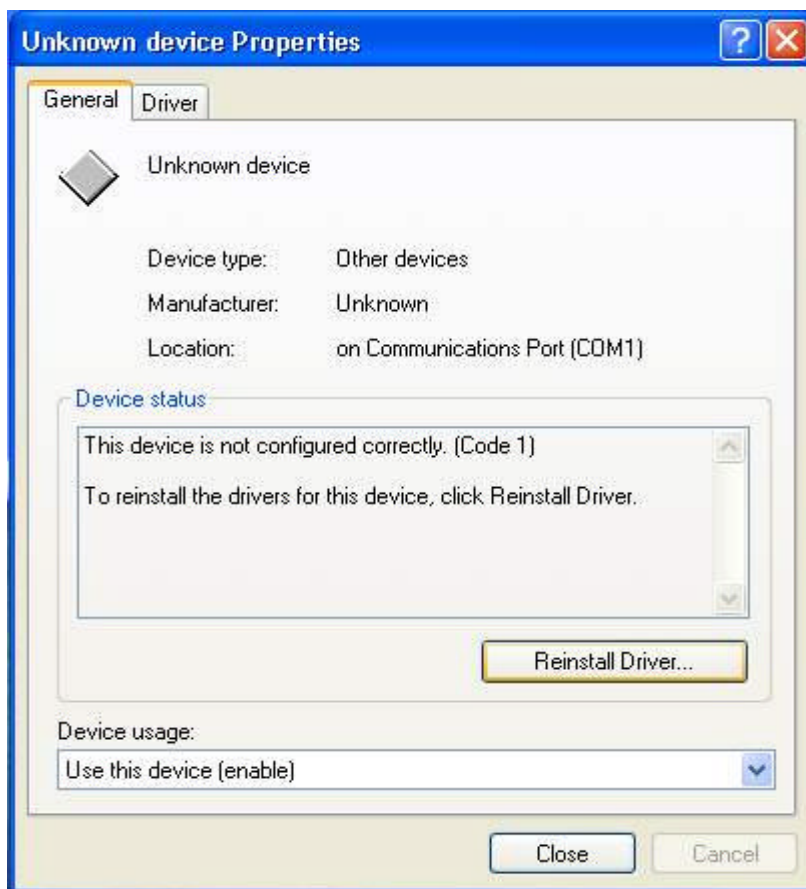

Fig 1
Step 1. Please note that the installation procedures will be different. It depends on different computer systems. If your screen shows the following display (as Fig. 1), select "Install from a list or specific location (Advanced)" and press 'Next' and go to Step 5. for continuous installation.
Step 2. If your screens' message does not show as Fig. 1 , then from "Start", select "Control Panel", select "System", select "Hardware", select "Device Manager", then double click the "Unknown device"